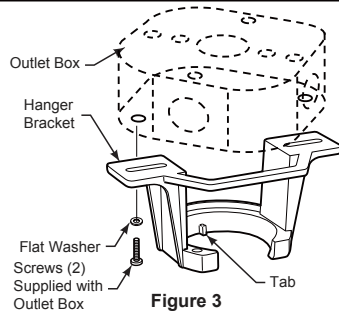

Figure 3
- 3. Route the black, white and blue wires through the downrod. (Figure 3)
1. Securely attach the hanger bracket to the outlet box (not included) using the outlet box screws and washers supplied with the outlet box. (Figure 3)